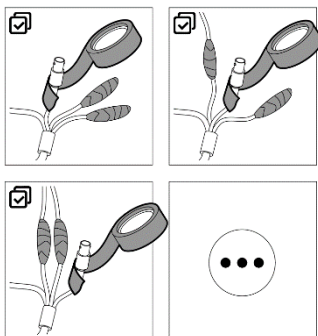

Figure 3-1 Waterproof Cables
- Connect the camera with the TVI DVR and the monitor, as shown in figure 3-1.